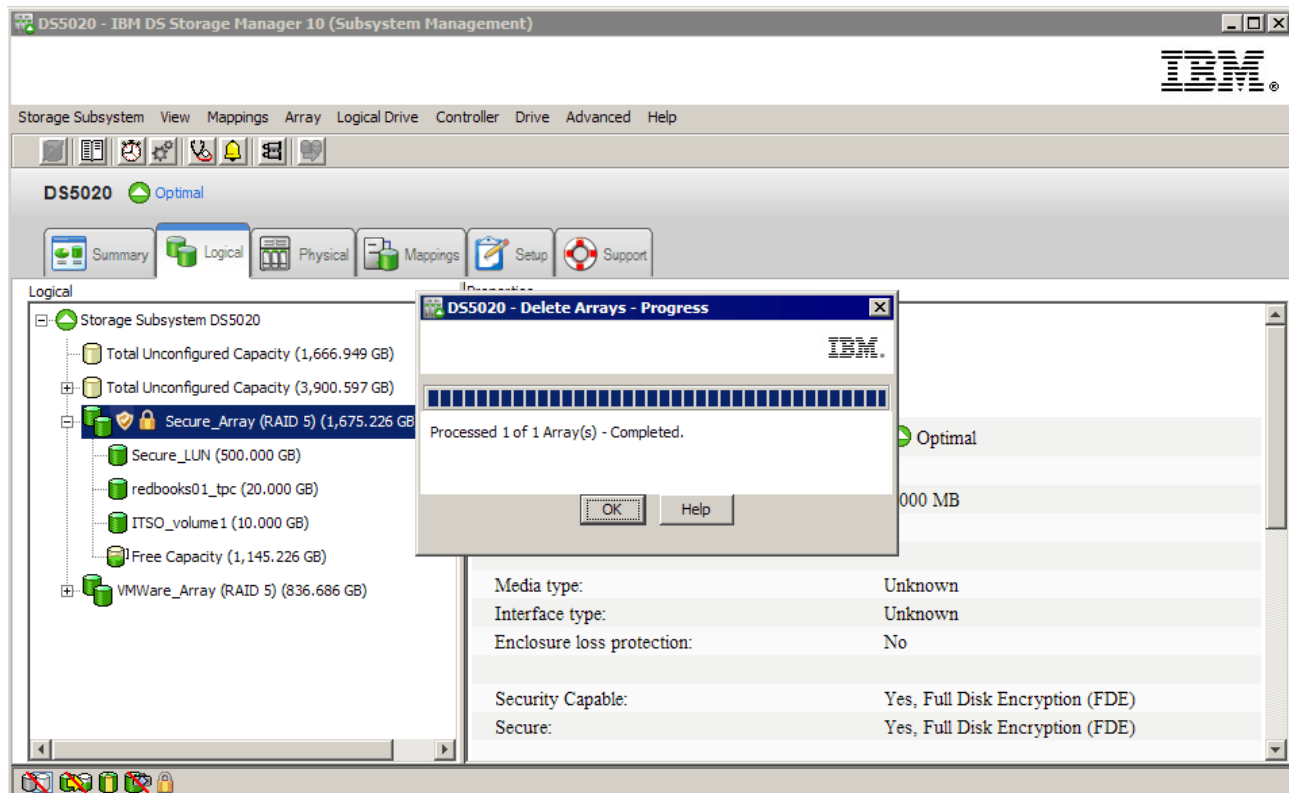

Figure 3-126 Delete Arrays - Completed
5. As shown in Figure 3-126 when the delete progress bar is complete; select **OK**.